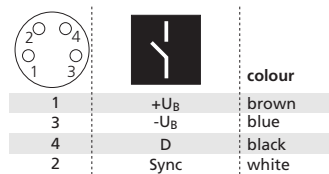

Fig. 2: Pin assignment with view onto sensor plug and colour coding of the microsonic connection cable
- Connect a connection cable to the M8 device plug, s. Fig. 2.